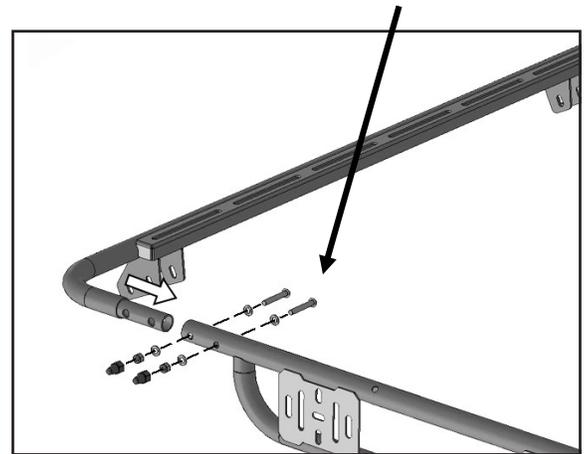
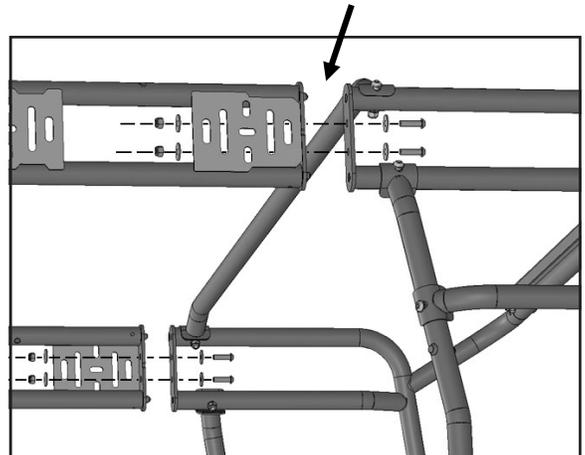

FIGURE 23
FIGURE 24
17. Select the driver/left Side Rail. Attach the front of the Side Rail to the Front Loop with the included (2) 8mm x 50mm Button Head Bolts, (4) 8mm x 16mm Small Flat Washers and (2) 8mm Nylon Lock Nuts, **(FIGURE 23)**. **NOTE:** To clear the freedom top or soft top, insert Bolts from inside to outside. After Bolts have been fully tightened, cover Lock Nuts on end of Bolts with included Plastic Caps. Attach the rear of the Side Rail to the front of the Rear Corner Assembly with (2) 8mm x 30mm Button Head Bolts, (4) 8mm x 24mm Large Flat Washers and (2) 8mm Nylon Lock Nuts, **(FIGURE 24)**. Repeat this Step to attach the passenger/right Side Rail to the Front Loop and Rear Corner Assembly.